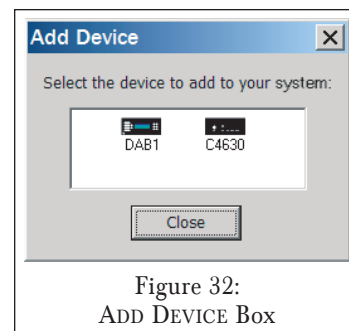
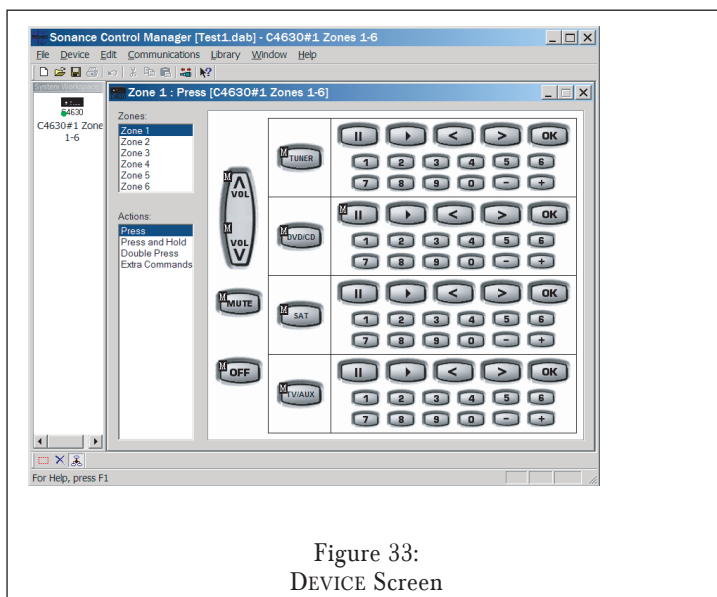

Figure 32:
Figure 33:
3. The ADD DEVICE box (Figure 32) will appear. Select C4630 SE. The DEVICE screen (Figure 33) will appear.